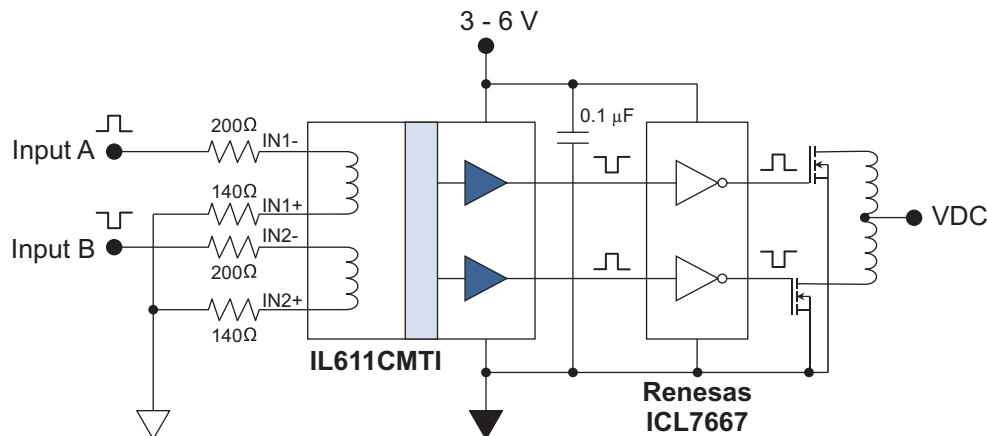

Figure 15. Isolated gate-driver interface.
- More detailed Figure 15 (isolated H-bridge driver).